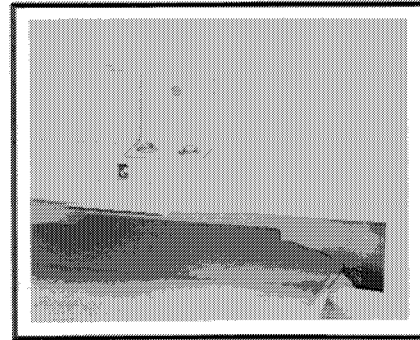

Fig. 3
N.B. If the optional top fixing bracket is to be used this should now be attached to the top of the rear case with the screws already fitted to the case (fig. 3).